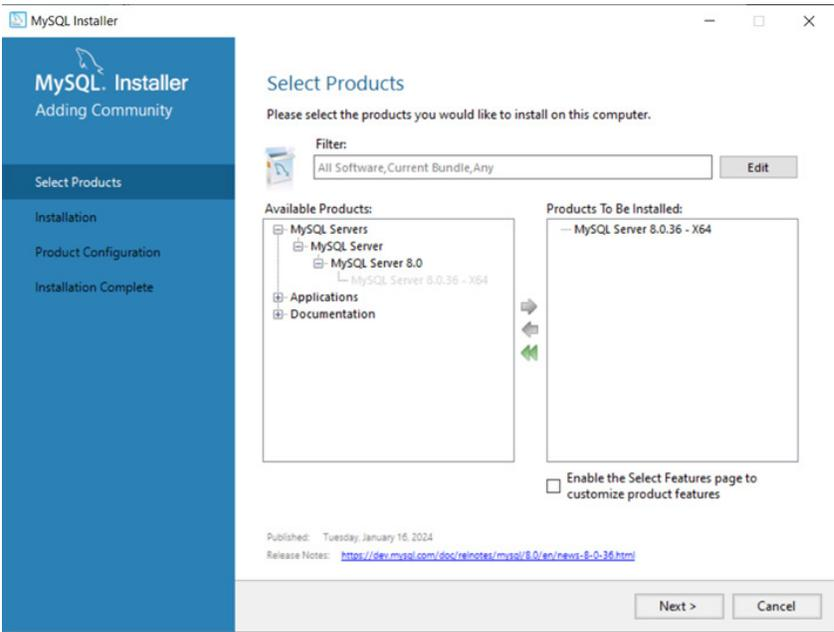

Figure A4
4. Once added, click "Next". (Figure A4)